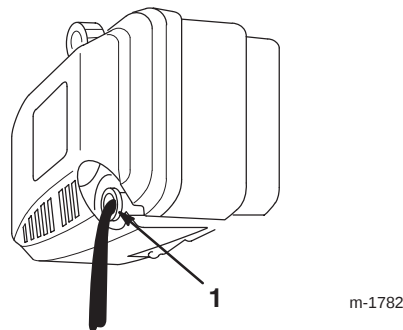

Figure 24
6. Tip the lawn mower onto its **left** side, allowing the oil to drain into the drain pan (Fig. 24).